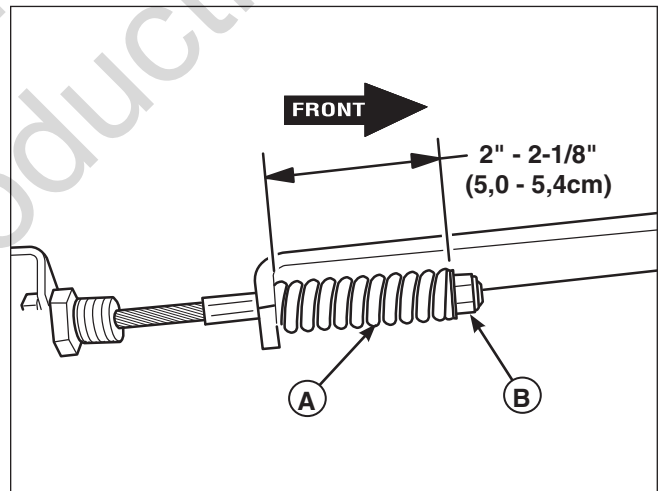

Figure 36. Parking Brake Adjustment
2. Locate the brake spring (A, Figure 36).
4. If the spring is not within this range, release the parking brake and turn the adjustment nut (B) to compress or release the spring.